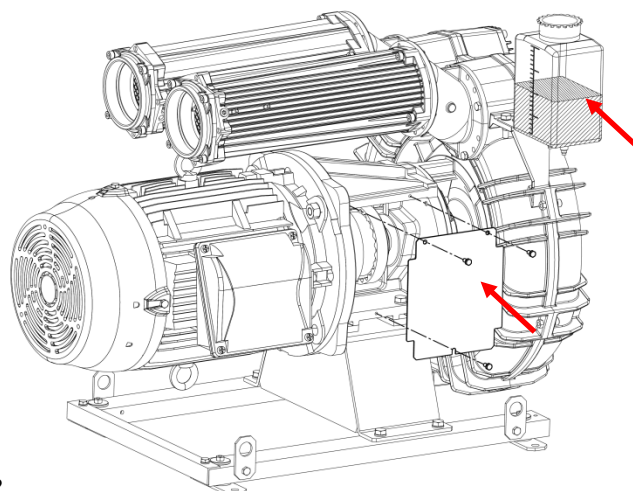

Fig. 6.2
1. Remove the screws and the joint cover (Fig. 6.2).